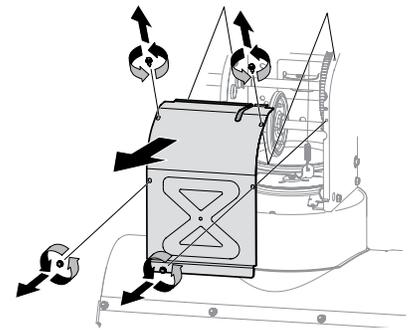
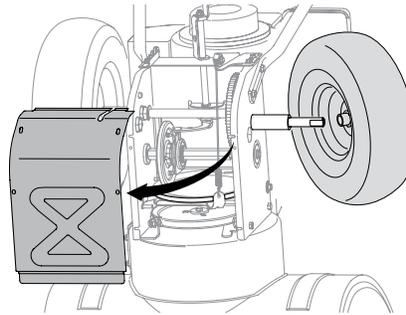

Figure 4-4
Figure 4-15
3. Remove frame cover from underside of unit by removing self-tapping screws (a) which secure it. Refer to Figure 4-4.
5. Remove frame cover from underside of unit by removing self-tapping screws which secure it. See Figure 4-4.
- Remove frame cover from underside of unit by removing four self-tapping screws which secure it. See Figure 4-4.
- Remove frame cover from underside of unit by removing self-tapping screws which secure it. See Figure 4-4. Remove right-hand wheel by removing screw and bell washer which secure it to axle. See Figure 4-15.